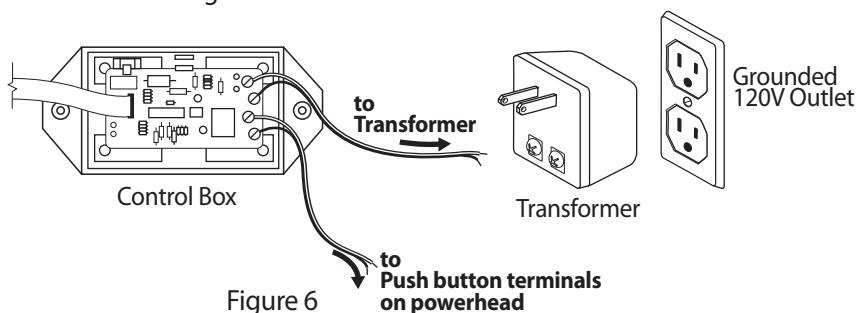

Figure 6
5. Remove approximately 1/2" of insulation from both wires on one end of a roll of two-conductor wire. Fasten one wire to each of the two screws located near the relay, Figure 6. Route this pair of wires to the push button terminals on the garage door opener powerhead using the staples provided. Cut the pair of wires to length, strip back the insulation as needed and attach them to the push button terminals, Figure 6. Remove approximately 1/2" of insulation from both wires on one end of the remaining roll of 2-conductor wire and fasten one wire to each of the remaining screws on the end of the control box, Figure 6. Route this pair of wires to the nearest grounded 120V electrical outlet. Cut the pair of wires to the required length, strip back insulation as needed from each wire, and attach one wire to each of the screws on the transformer (Do not connect them directly to the electrical outlet.) **IMPORTANT:** When making all of the above connections, make sure wire ends do not touch adjacent terminals or each other. Wires must be connected as shown in Figure 6. Mark both ends of one pair of wires with tape to prevent connecting them to the wrong terminals.